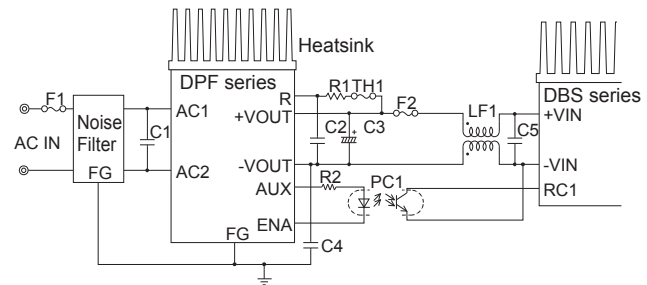

Fig.3.1 Standard connection method
■ To use DPF1000, connection shown in Fig.3.1 and outside attached components are required. Through this connection, DC output voltage can be obtained from AC input voltage.
- For connecting the DBS/DHS series, see Fig.3.1.